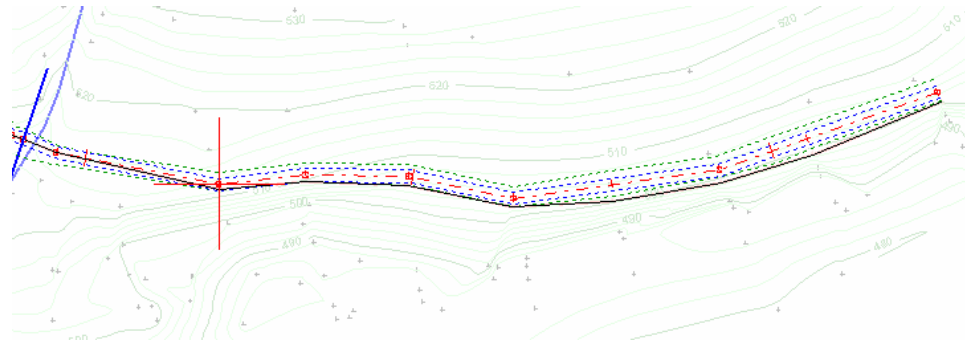

Figure 4.2: After Aligning the First Section of Road
- Horizontally align from the start of the road (right hand side in the Plan window) to the creek until there are no more excessive fills (see Figure 4.2 ). You can move *or* delete horizontal IPs.